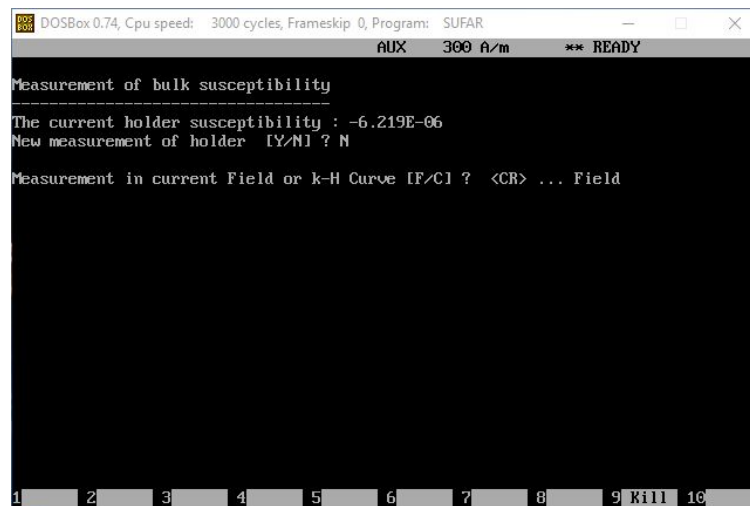

Figure 25. Prompt Window allowing user to select field for bulk susceptibility measurements
4. User is prompted to select to measure in the current field or k-H Curve. Pressing Return will trigger the default response: current field (**Figure 25**).